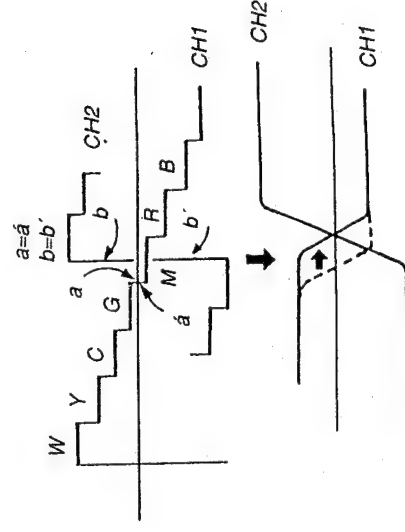

Fig. 42-1.
3. Adjust the respective positions of oscilloscope so that the waveform of CH1 becomes a-a' and the of CH2 becomes b-b' against the center scale as shown in Fig. 42-1.
4. Enlarge a-a' and b-b' sections in Fig. 42-1.